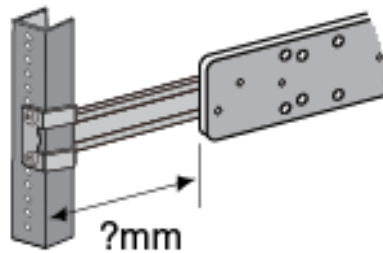

Figure 11. Measuring for the Extension Brackets
3. Measure the distance from the front of the equipment rack to the front of the inner rail. This will be the approximate length of the extension brackets. Refer to Figure 11.